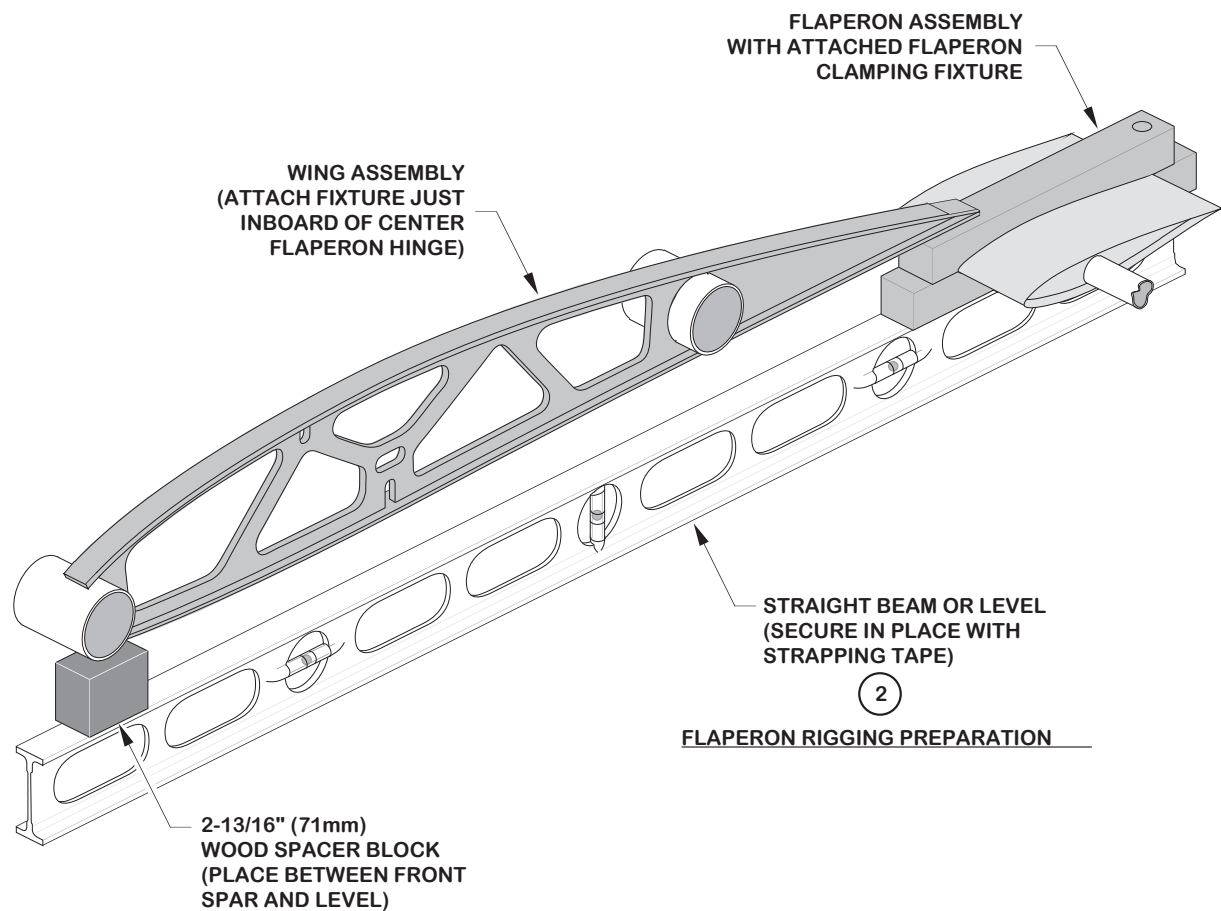

Figure D-1
- 2. With the wings of the aircraft unfolded, insert the flaperon control horn assemblies into the flaperon spars. Adjust the angle of the flaperon control horns until they correspond with the holes and marks previously made in the flaperon spars during the wing assembly. Attach the horn assemblies to the spars using the pop rivets shown in Figure D-1.